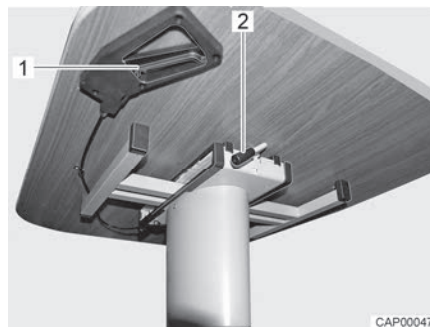

Fig. 50 Moving the lift-off table
- Swivel lever (Fig. 50,2) downwards until it is in a downward vertical position.
- Swivel lever (Fig. 50,2) upwards until the table top is fastened.
- Pull the locking handle (Fig. 50,1).
- Release the locking handle (Fig. 50,1). The table top remains at the adjusted height.